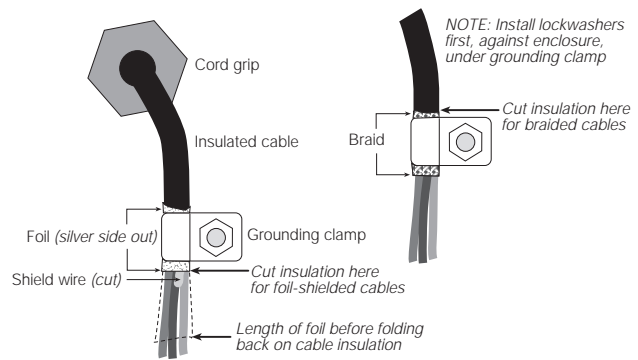

Figure 6-1. Grounding Clamp Attachment for Foil-Shielded and Braided Cabling
- For cables with foil shielding, strip insulation and foil from the cable half an inch (15 mm) past the grounding clamp (see Figure 6-1). Fold the foil shield back on the cable where the cable passes through the clamp. Ensure silver (conductive) side of foil is turned outward for contact with the grounding clamp.
- For cables with braided shielding, strip cable insulation and braided shield from a point just past the grounding clamp. Strip another half inch (15 mm) of insulation *only* to expose the braid where the cable passes through the clamp (see Figure 6-1).
- Route stripped cables through cord grips and clamps. Ensure shields contact grounding clamps as shown in Figure 6-1. Tighten grounding clamp nuts.